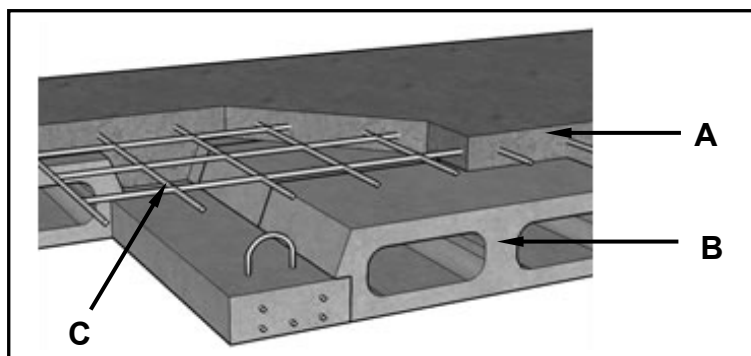

FIGURE 2.3
2.3 FIGURE 2.3 below is an illustration of a precast floor slab. Study the illustration and answer the questions that follow.
- 2.3.1 Name the type of floor construction that is illustrated in FIGURE 2.3 above. (1)
- 2.3.3 Give ONE reason why you would rather use the type of floor construction in FIGURE 2.3, than an in situ cast suspended floor. (1)